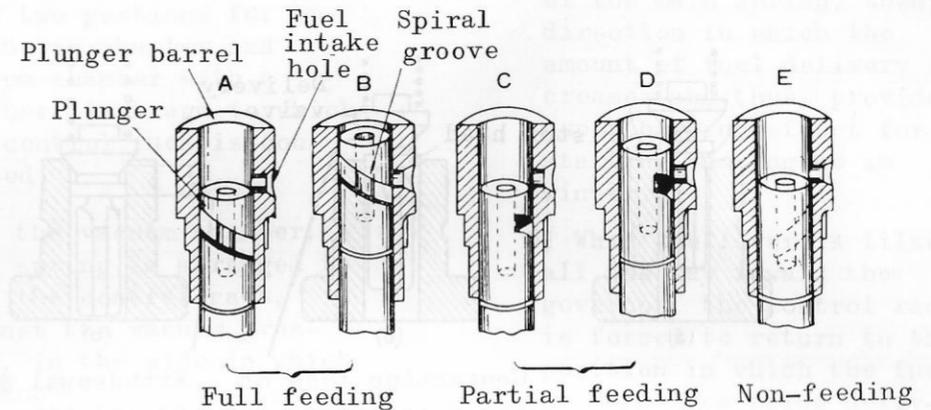

Fig. 9-6
- 3) As illustrated in Fig. 9-6, the plunger has a hole on its tip end drilled through the axial direc-